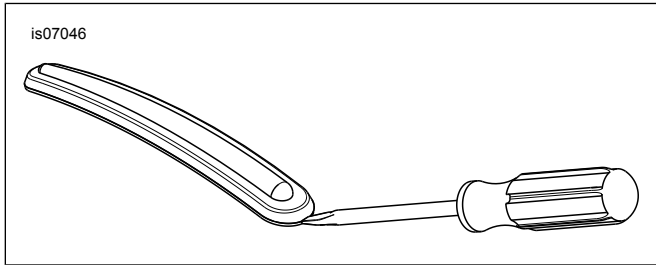

Figure 2. Remove Fender Trim Strip
4. **For All Kits Except 53051-09:** Remove the two flanged nuts (E) from the studs (F) near the front of the rear fender.
- b. See Figure 2. Insert the tip of the screwdriver between the chrome bezel and the rubber trim strip.